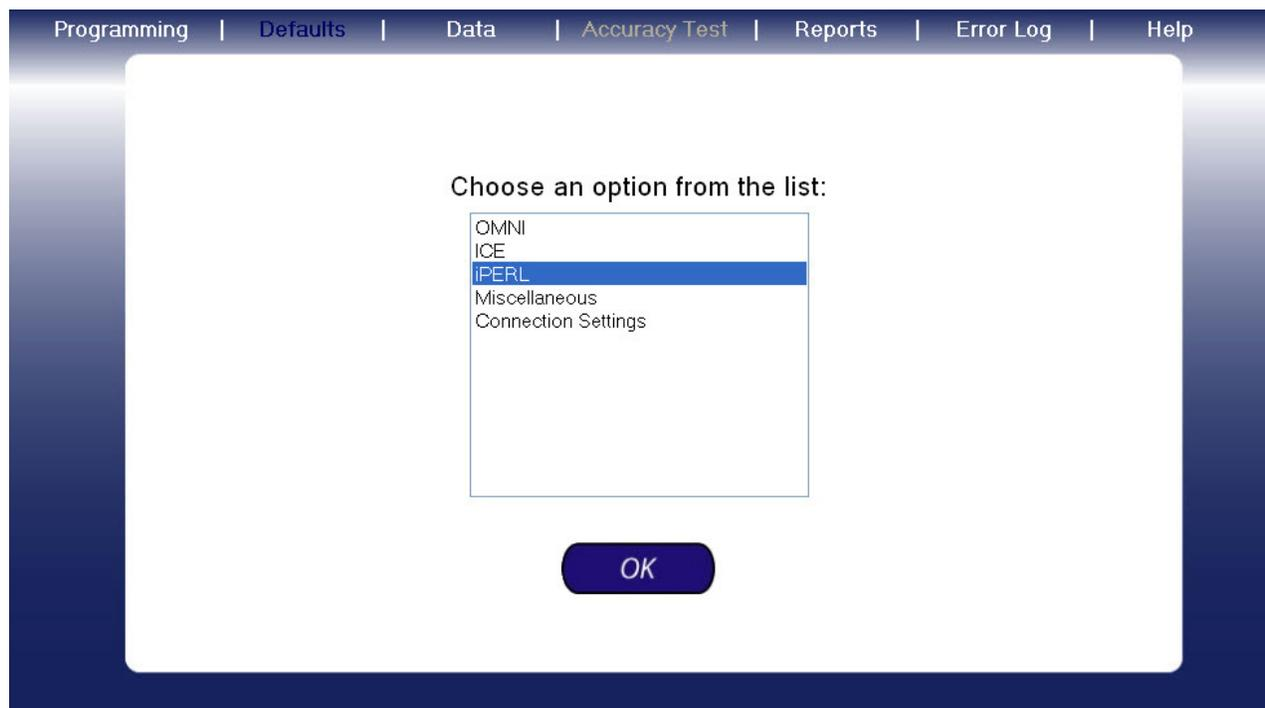

Figure 3-1: Defaults Screen
5. In the Unipro application, click the **Defaults** menu option. The **Defaults** screen appears, as shown in Figure 3-1.